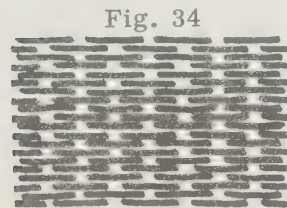

Fig. 34
2. WEFT FACE The warp is sleyed far enough apart so that the weft beats down to cover the warp as in Fig. 34.